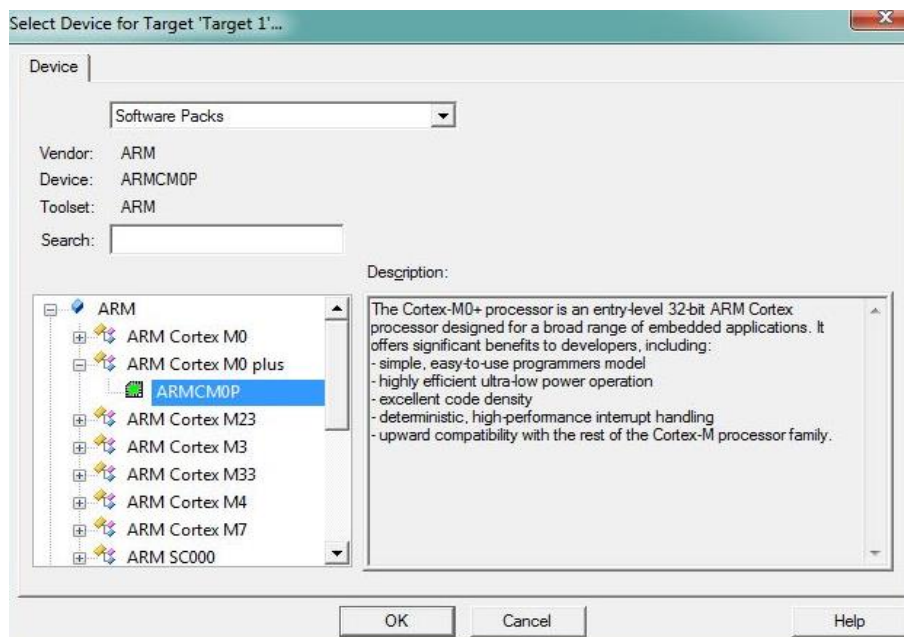

Figure 4: Select Device
- 4) Select **Device** and click **OK**, see figure 4.